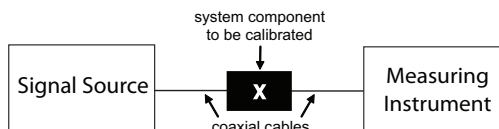

Figure 4 – Setup for Insertion Loss Measurements (I)
- 2) INSERTION LOSS MEASUREMENTS **(I)** - Without changing any equipment settings, and with the equipment set up as shown in Figure 4, measure and record the signal level (*in dBμV*) at the same frequencies used in Step 1.